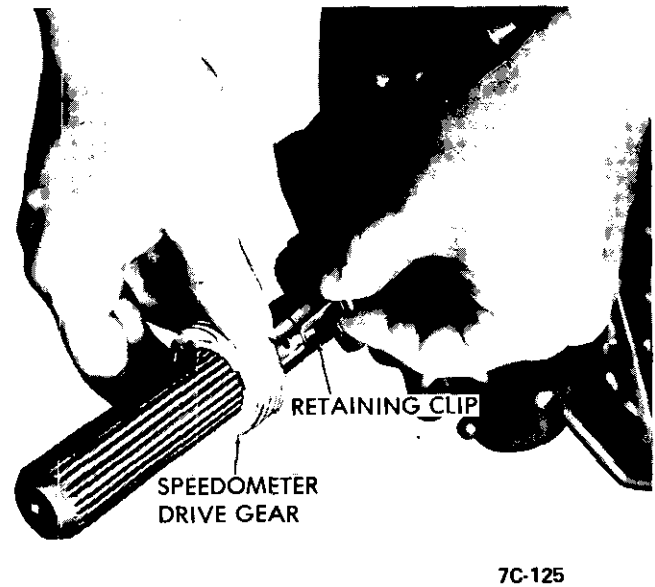

Figure 7C-220
3. Install snap ring over output shaft using snap ring pliers such as J-8059. See Figure 7C-219.